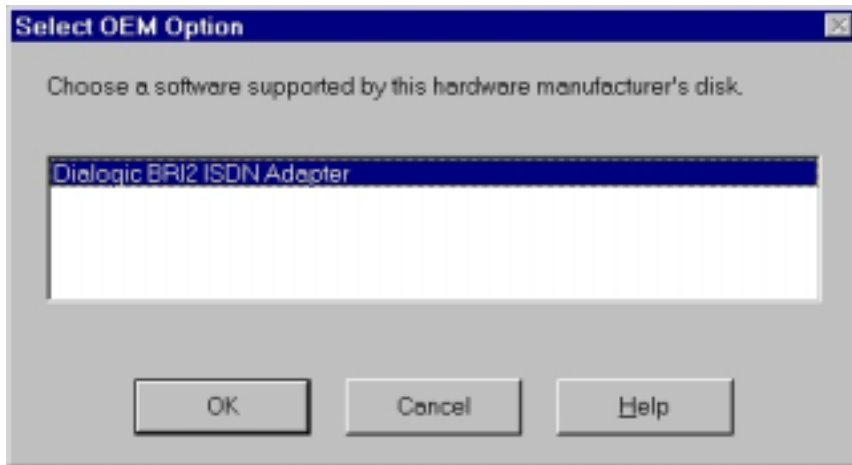

Figure 15. Select OEM Option
4. When prompted, type *C:\Program Files\Dialogic\Drv*, which is the default location of the BRI/2 ISDN network adapter driver, and click the **OK** button. The **Select OEM Option** window (Figure 15) is displayed.